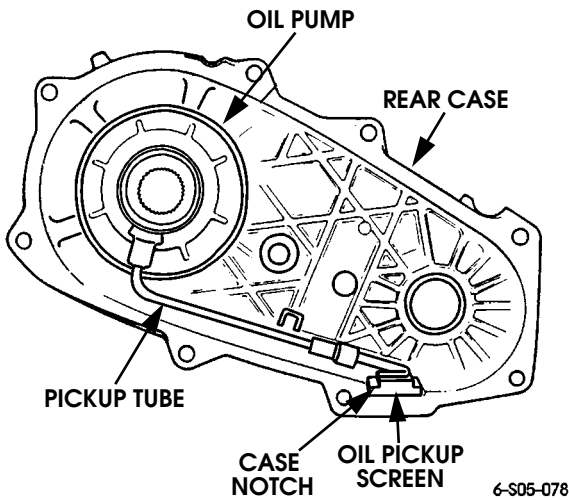

Figure 5-163: Oil Pump Assembly Installation
- 30. Position pump assembly in rear case. Be sure pickup screen is seated in case notch as shown (Figure 5-163).